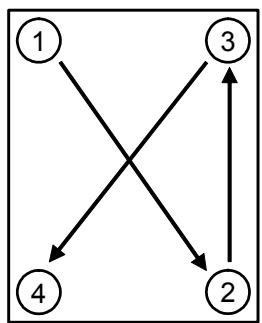

Fig.5-8 : Example of order which tighten bolts
- 4) Confirm that packing is stuck correctly and install the cover. When tightening the bolts fixing the cover, avoid tightening them to a specified torque at a time. Tighten the bolt in the order shown as much as possible in the "Fig. 5-8 Example of order which tighten bolts". The torque which tightens the fixing bolt of each cover is shown in "Table 5-3 : Cover fixing screw list".